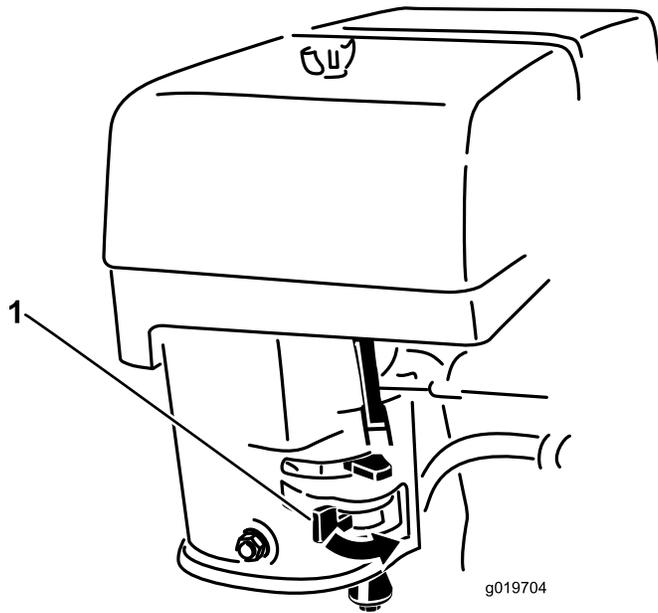

Figure 10
1. Move the fuel valve to the On position (Figure 10).